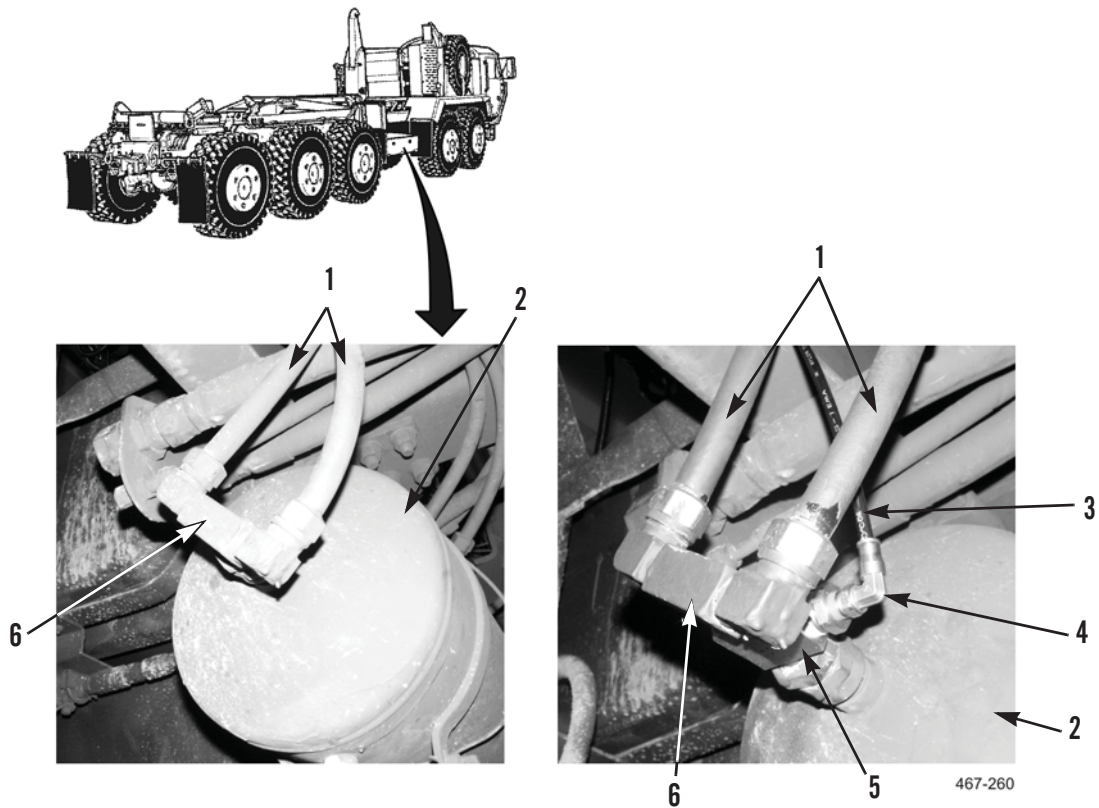

Figure 32. PLS Pneumatic Fitting and Hose Installation.
26. Remove two hoses (Figure 32, Item 1) from original fitting (Figure 32, Item 6).
27. Remove original fitting (Figure 32, Item 6) from tank (Figure 32, Item 2).
28. Apply thread tape to new fitting (Figure 32, Item 5) and install on tank (Figure 32, Item 2).
29. Apply thread tape to original fitting (Figure 32, Item 6) and install on new fitting (Figure 32, Item 5).
30. Apply thread tape to presslock fitting (Figure 32, Item 4) and install on new fitting (Figure 32, Item 5).
31. Cut air hose (Figure 32, Item 3) to fit and install in presslock fitting (Figure 32, Item 4).
32. Install two hoses (Figure 32, Item 1) on original fitting (Figure 32, Item 6).